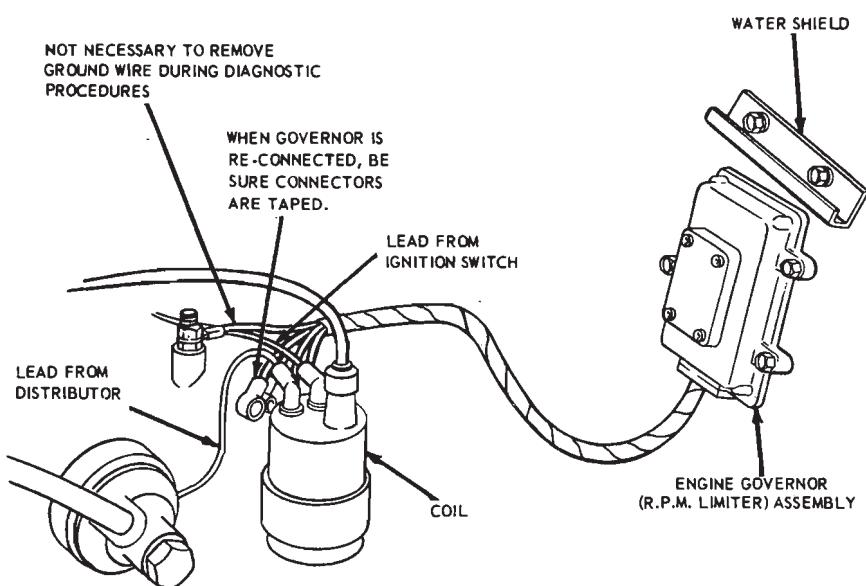

FIG. 14—RPM Limiter Disconnected
1. In a case of engine-won't-start, begin by making a coil spark intensity test as outlined in this Part. If the coil checks out, inspect the distributor cap, spark plug wires and fuel system for correct operation. If the spark from the coil is weak or no spark is observed, check all the electrical connections in the primary circuit. If these all check out, take the governor out of the circuit as shown in Fig. 14. If this corrects the trouble, replace the governor. If not, check the coil on a bench tester and check the primary circuit for continuity. Replace or repair as required.
2. If engine has an intermittent misfire below 6000 rpm, first verify that the dwell angle is within specification (30 degree—33 degree). If this is correct, take the governor out of the circuit (Fig. 14). If the mis-fire continues, check the fuel system and secondary ignition wiring system. Replace or repair as necessary. If the mis-fire is corrected when the governor is out of the circuit, replace the governor.